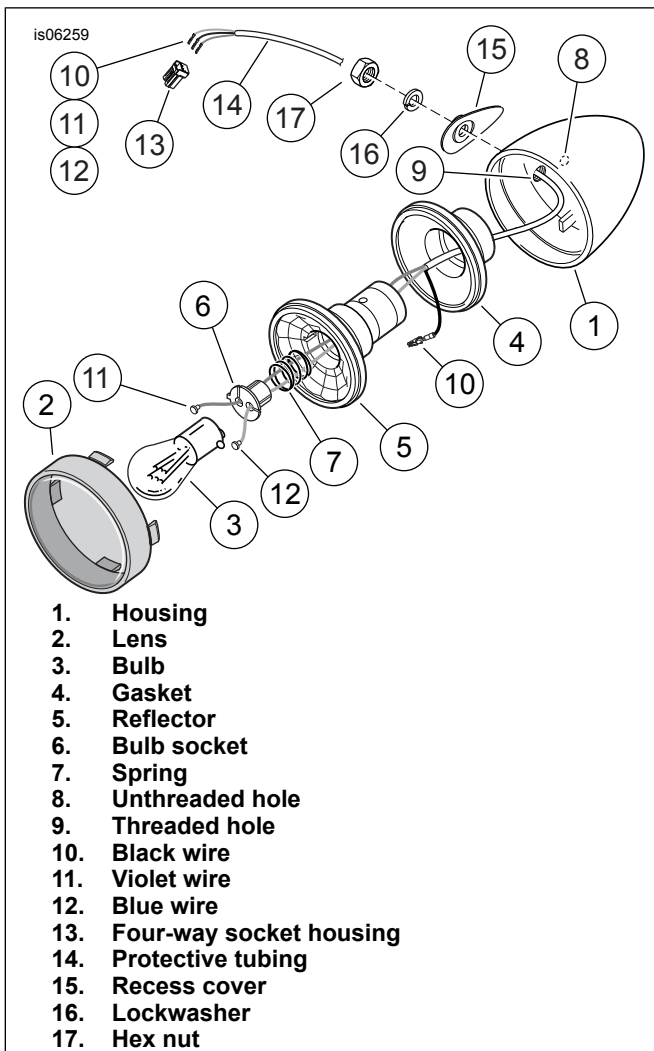

Figure 1. Stop/Tail/Turn Signal Lamp
11. See Figure 1. Remove the black (10), violet (11) and blue (12) wires and socket terminals from the STT socket housings (13). Set the STT lamps and socket housings aside for later installation.